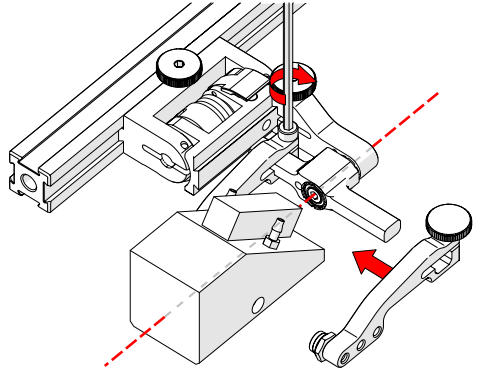

Fig. 59 - Place wedge
7. Position the wedge on the inner probe holder arm (Fig. 59).